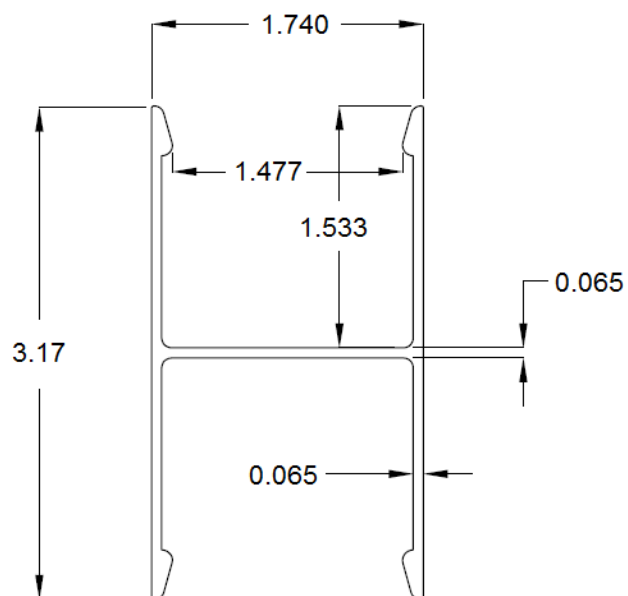

FIGURE 6 – ALUMINUM "ALTERNATE" H INSERT
3.1.6.1. An extruded aluminum insert provides reinforcement in the top rail and bottom rail. See Figures 6 and 7.